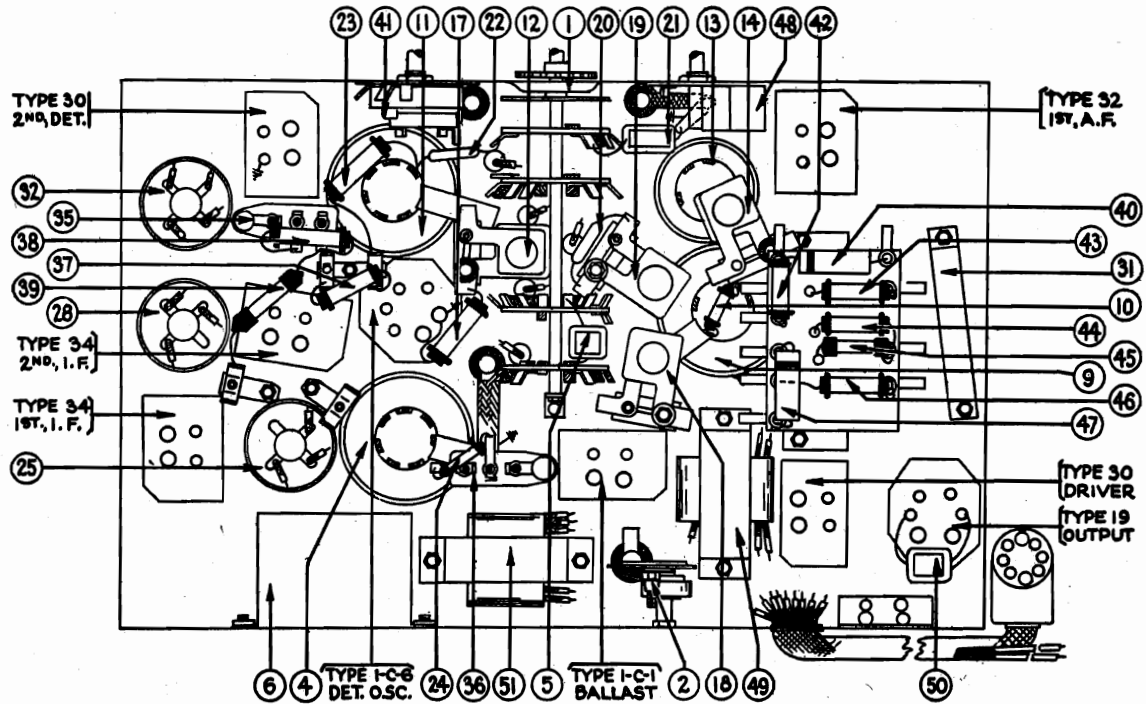

FIG. 5—Bottom View of Chassis, Showing Parts, and Position of Compensating Condensers Reached from Below Chassis
Turn the Wave-Band Switch to Range 2, and adjust the Station Selector to 3.6 M.C. The "Antenna" connection between the Signal Generator and the receiver chassis must be removed for this adjustment, otherwise the output of the Signal Generator will be too great. Adjust the compensating condenser ⑤ to give maximum response in the output circuit. This compensating condenser is located underneath the chassis and is not accessible from above. See Figure 5.
The Model 048 or its equivalent is now used again. Turn the Wave-Band Switch of the set to Range 2 and the Station Selector to 1.5 M.C. Set the Signal Generator at 1500 K.C. Make sure the "Antenna" connection between the Signal Generator and the Chassis has been restored. Adjust compensating condenser ⑥ located underneath the chassis, (Figure 5). Adjustment is made from the underside of the chassis.
Tune the Wave-Band Switch to Range 1 and the Station Selector to 1400 K.C. Set the Signal Generator at 1400 K.C. Adjust compensating condenser ⑦, which is located underneath the chassis. (See Figure 5). This adjustment is made from the underside of chassis.
Finally, with Wave-Band Switch at Range 1, and Station Selector at 520 K.C., set the Signal Generator at 520 K.C. and adjust compensating condenser ⑧ (Figure 5). This compensating condenser is also mounted underneath the chassis, and reached from below.